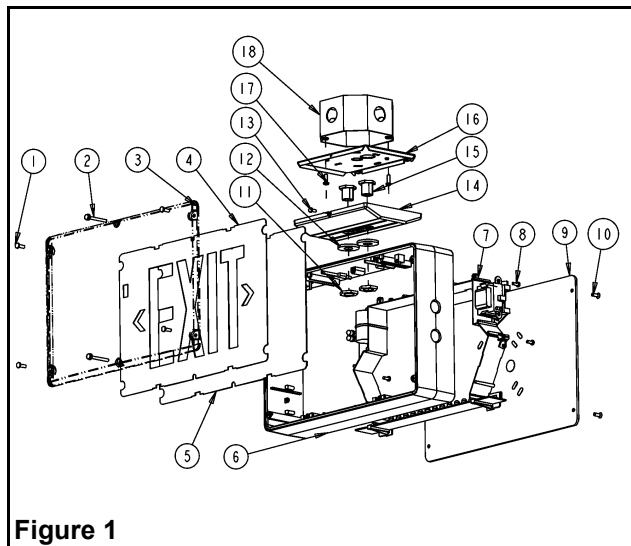

Figure 1
- e. Make sure the securement screw is accessible (see fig.1 part # 13). Use existing screws in junction box to secure canopy backplate to the junction box.
- h. Determine which holes in the exit frame will be used for mounting (see fig.1 & fig.3). Support frame by two blocks of wood, maximum one inch apart. Strike knockouts with a hammer and screwdriver. Clear holes of burrs to allow proper assembly of nipple/wire assembly.